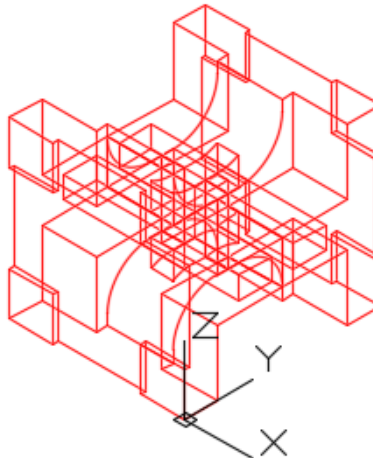

Figure Step 4
Step 4 Move the model to locate the front corner on the WCS. (Figure Step 4)